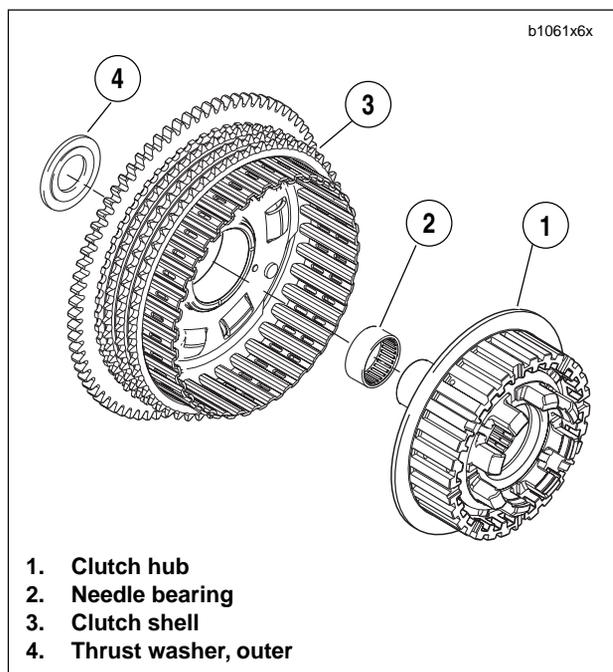
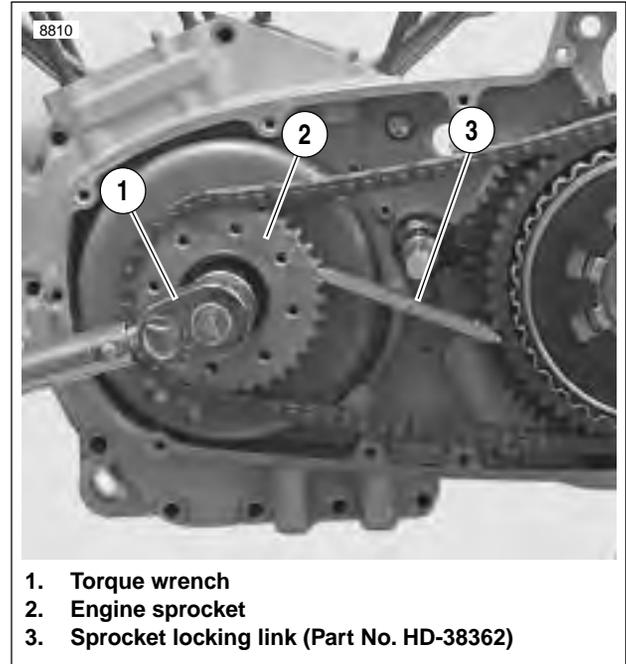

Figure 6-32. Clutch Hub and Shell Assembly
Figure 6-33. Sprocket Locking Link Tool (Part No. HD-38362) for XB9R models and (Part No. HD-46283) for XB12R models.
1. See Figure 6-32. Assemble clutch hub (1) and shell (3) by sliding inboard end of clutch hub into shell bearing(2) by hand. No tools are required.
3. Verify that outer thrust washer (4) is installed on transmission shaft.
5. See Figure 6-33. Install the engine sprocket nut.